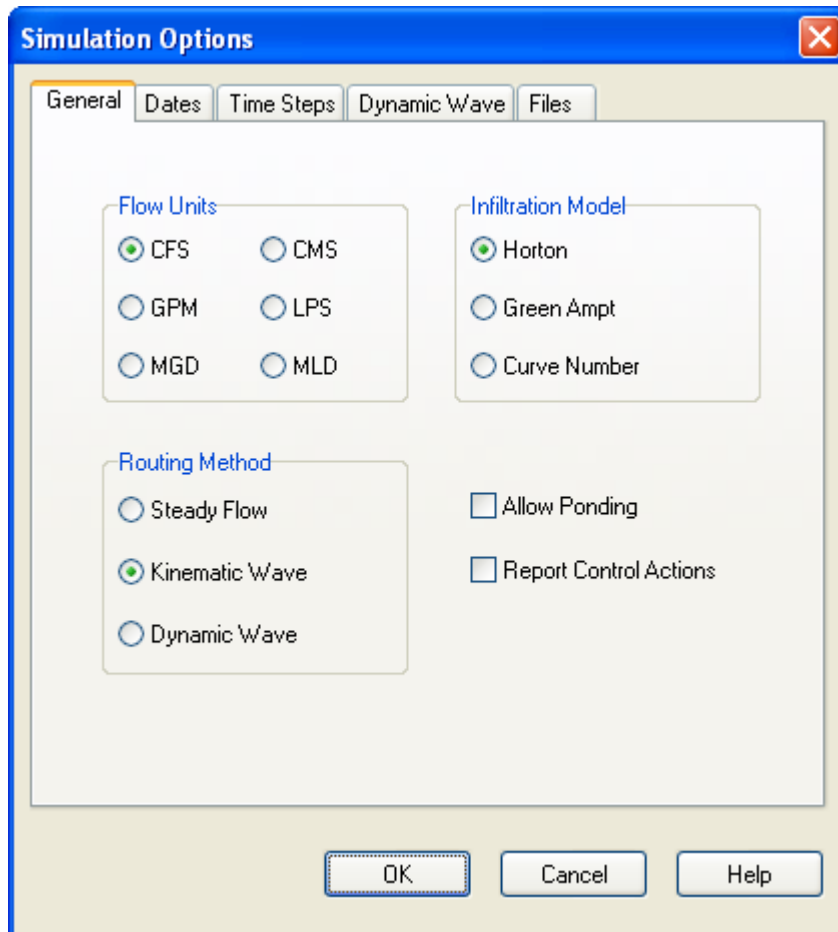

Figure 2-10. Simulation Options dialog.
2. On the General page of the Simulation Options dialog that appears (see Figure 2-10), select **Kinematic Wave** as the flow routing method. The flow units should already be set to **CFS** and the infiltration method to **Green-Ampt**. The Allow Ponding option should be unchecked.